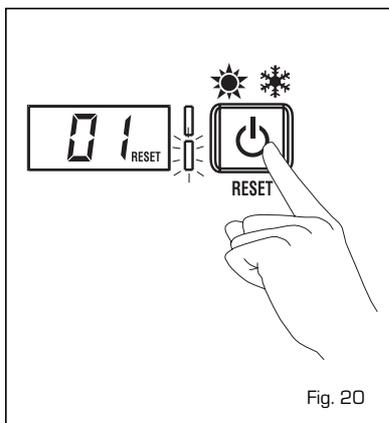

Fig. 20
- **FUMES DISCHARGE ERROR ALARM 01** (fig. 20)